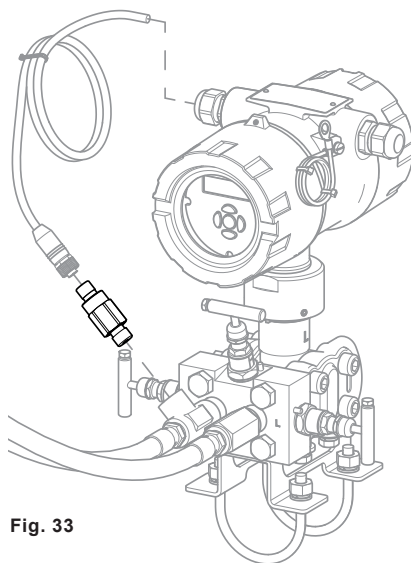

Fig. 33
2. Close the isolation valves on the two way manifold and open the bleed valves on the MVT10 to allow the condensate to drain. (Consider where the condensate is going to drain to. A container placed under the bleed valves to catch the condensate may be advisable). See Figure 33.
6. Loosen the cable gland on the electronics housing and withdraw cable. See Figure 33.